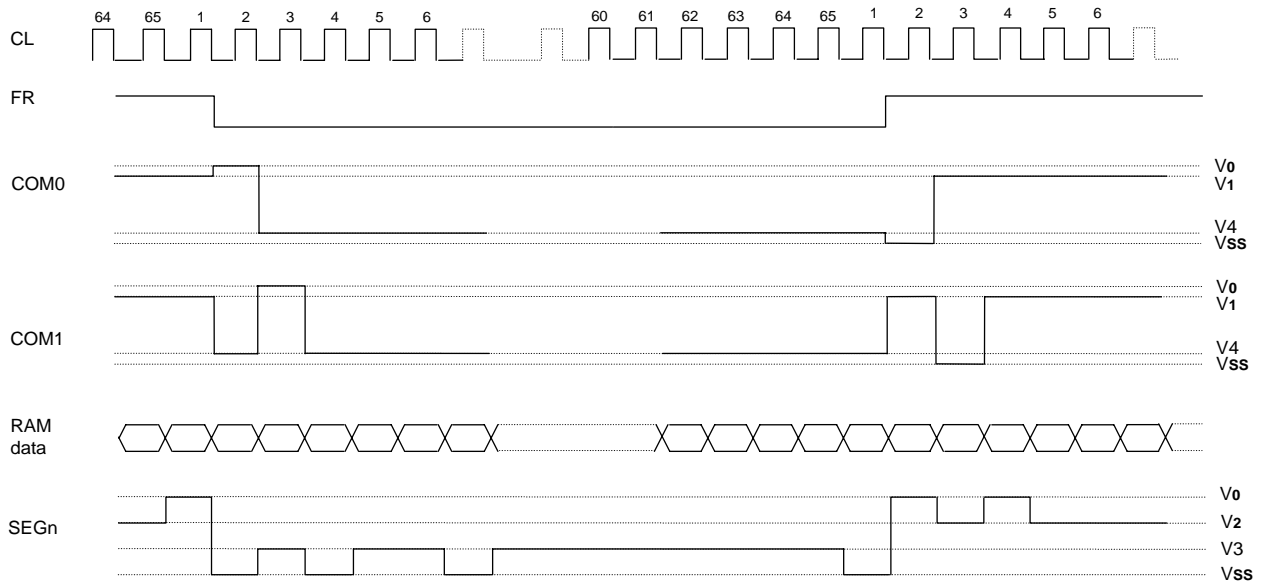

Figure. 5
Moreover, the display timing generator circuit generates the common timing and the liquid crystal alternating current signal (FR) from the display clock. It generates a drive waveform using a 2 frame alternating current drive method, as is shown in Figure 5, for the liquid crystal drive circuit.